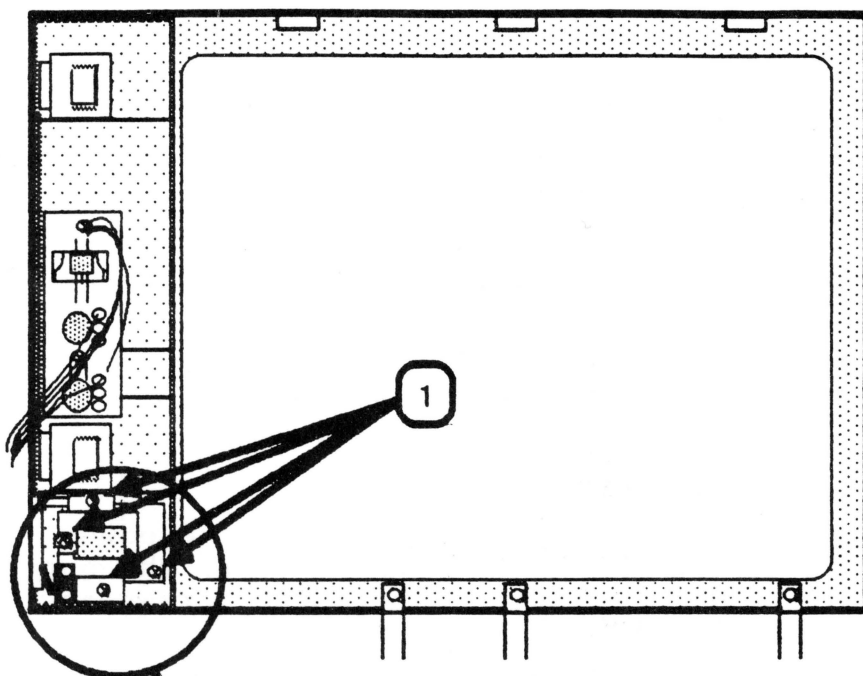

FIGURE 25
4. Locate the plastic mounting plate circled in Figure 25. Remove the four mounting screws (Figure 25, #1).